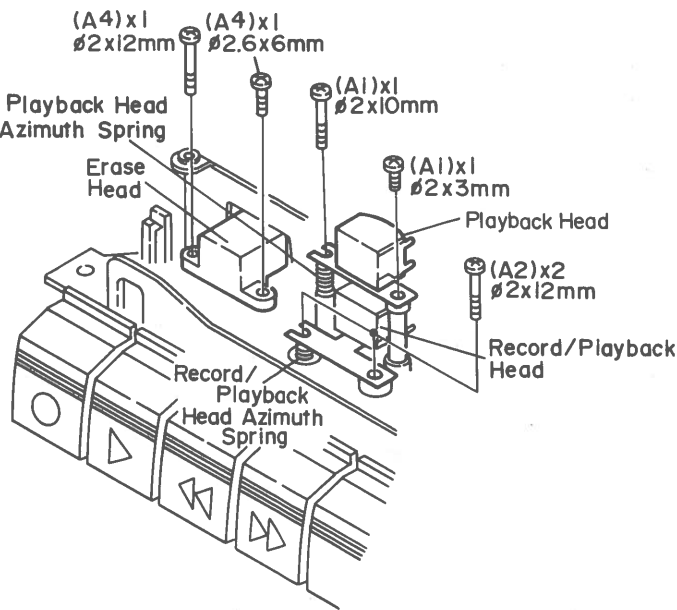

Figure 5-1
- How to remove the playback, erase and record/playback heads (See Fig. 5-1.)